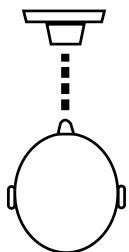

Figure 2
1. When performing any dialing operation, always view the dial straight-on (Figure 2).